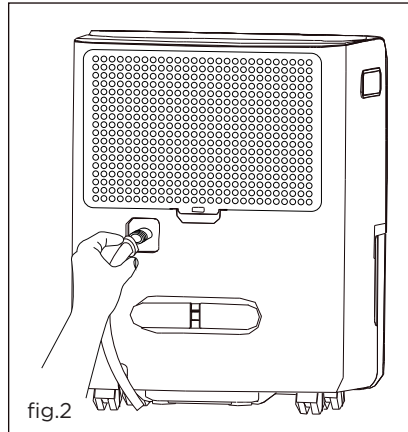

fig.2
- c. Insert the female threaded end of the hose onto the drain connector of the unit. (fig.2)